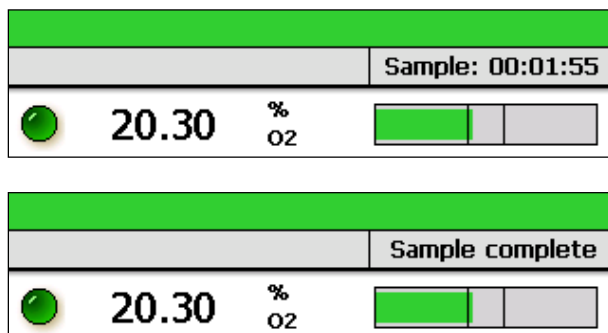

Figure 39 - Timed sample progress
- Throughout the sample period, the time remaining on the sample timer will be shown on the screen (Figure 39).
- When the sample is complete, the ACG+ will give three beeps and the sample valve will close. The main screen shall show that the sample is complete (Figure 39).